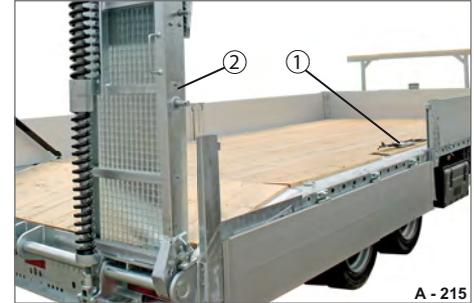

Fig. 53 Removing the securing tensiometer
► Set down the complete securing tensiometer (Fig. 53/1) safely to avoid damage.